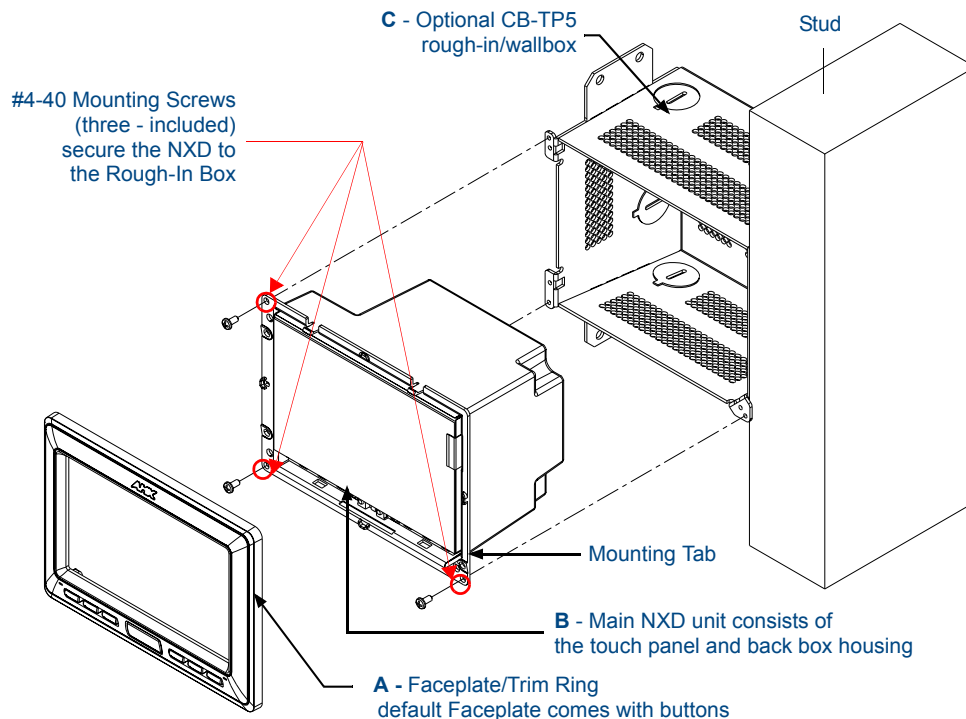

FIG. 17 NXD-CV5 panel installation into a CB-TP5 (pre-wall construction)
1. Remove the Faceplate/bezel (**A** in FIG. 17) from the main NXD unit (**B** in FIG. 17) by gripping the faceplate and pulling with gentle outward force.
6. Carefully slide the main NXD-CV5 unit (**B** in FIG. 17) into the rough-in box, so that all Mounting Tabs lie flush against the rough-in box (**C** in FIG. 17).
8. Place the Faceplate/Trim Ring (**A** in FIG. 17) back onto the main NXD unit (**B** in FIG. 17).